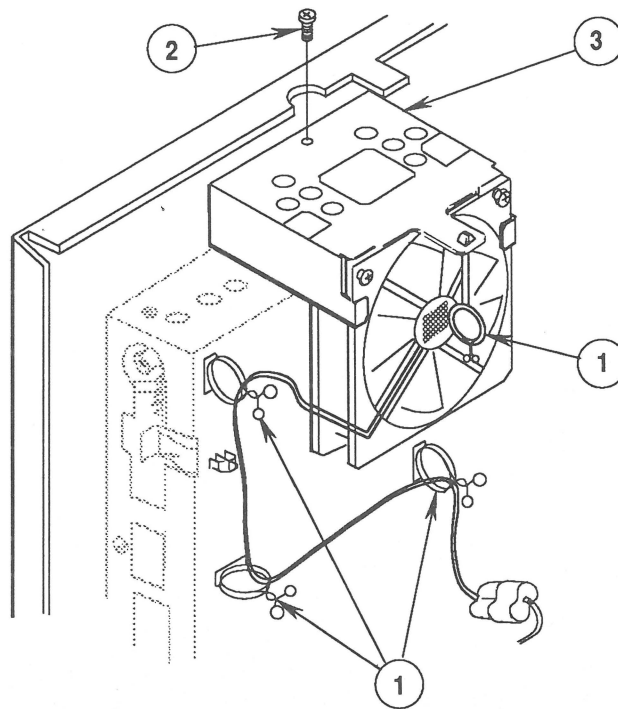

FIGURE 15
5. Open the four cable clamps (Figure 15, #1).
6. Remove the screw (Figure 15, #2) that secures the fan mounting bracket (Figure 15, #3) to the chassis. Carefully remove the mounting bracket, fan, and wire.